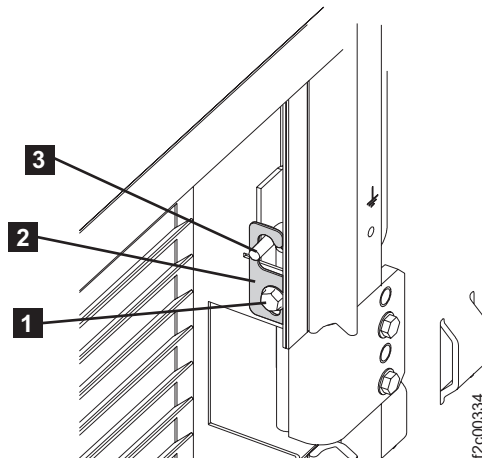

Figure 57. Removing rear left cover on Rack-1
4. Remove the left rear cover from Rack-1. Refer to Figure 57.